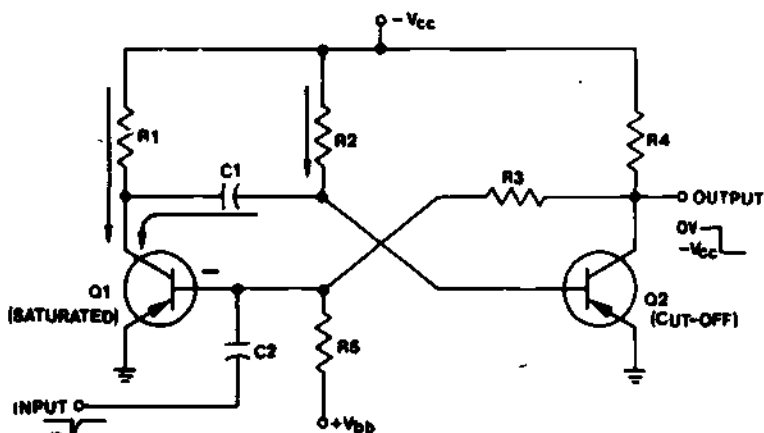

Figure 6
In Figure 6, electrons flowing through R2 to the right side of C1 will balance the charge on C1 (discharge C1) so that the base of Q2 gradually becomes more negative. At some point, Q2 will start conducting again; this will cause Q1 to cut off and the circuit will flop back to its stable state. The length of time that Q2 is cut off depends on the RC time constant of C1 and R2. (You may want to review RC time constants at this time.)
9. The normal output from the one shot multivibrator is taken from the collector of Q2, so the output is a fixed width, negative pulse for each input pulse. If, for some reason, we want a positive going pulse, we can use a circuit containing NPN transistors or we can take the output from the collector of Q1 in a PNP transistor circuit. (See Figure 6 in Frame 8.)